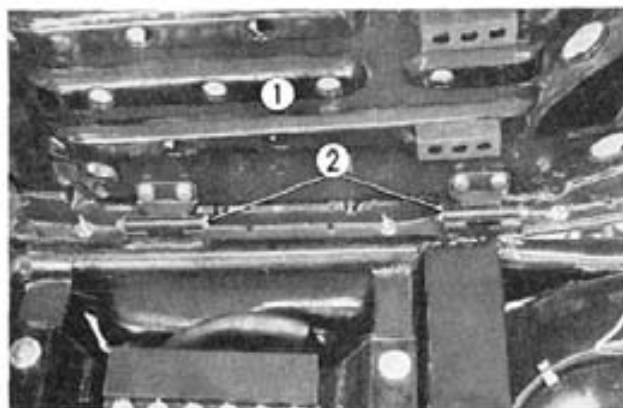

Fig. 15-3 ① Seat
8. Remove the two seat hinge bars and remove the seat from the frame. (Fig. 15-3)